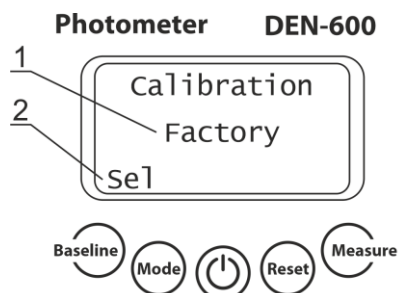

Figure 5. User and factory calibration selection.
5.8.1. **Restoring to McF factory calibration settings (figure 5).** Enter user calibration regime by pressing **Baseline** key 5 times in **McF** measurement mode, press **Mode** key 2 times, then select between User and Factory calibration settings by pressing Sel (**Baseline** key, fig. 5/2), to exit the menu press **Reset** key.